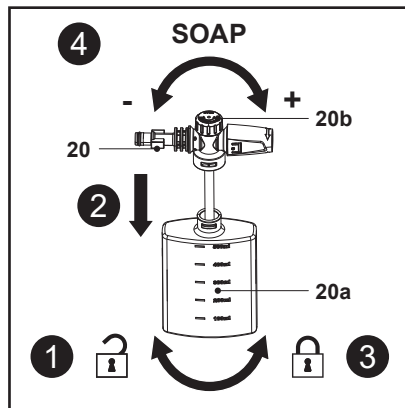

Fig. 13
Refilling and using detergent as shown in Fig. 13.
1. Hold the detergent bottle nozzle (20), then unlock and remove the bottle (20a) (Fig. 13, step 1).
2. Ensure that the water supply pipe is properly secured to the detergent nozzle (20).
4. Place the detergent bottle nozzle (20) onto the bottle (20a) (Fig. 13, step 2).
5. Hold the detergent bottle nozzle (20), then lock the bottle (20a) firmly on it (Fig. 13, step 3).
6. Rotate the adjustable knob (20b) clockwise to perform high-dose soap washing, and counterclockwise to perform low-dose soap washing (Fig. 13, step 4).
7. Assemble the detergent bottle nozzle (20) to the spray gun (15).
8. The detergent bottle nozzle (20) is ready for use.